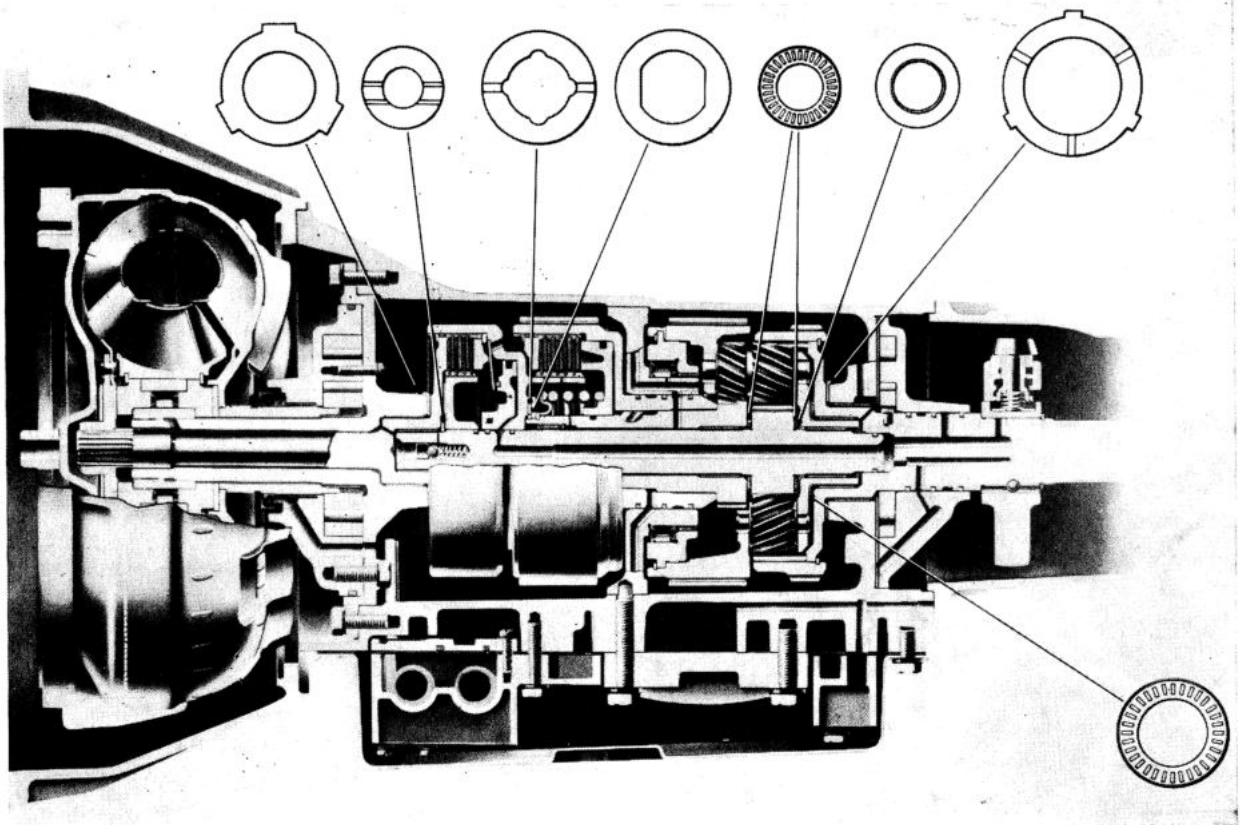

Fig. 4-96. Location of thrust washers
3. The thrust washer for driven shaft, see Fig. 4-96, is stuck onto the transmission case with vaseline. The driven shaft complete with ring gear is then installed into the transmission case.
18. Install the clutch assembly with its two different thrust washers in the gearbox, see Fig. 4-112. Be careful not to damage the oil sealing rings. For identifying the thrust washers, see Fig. 4-96.